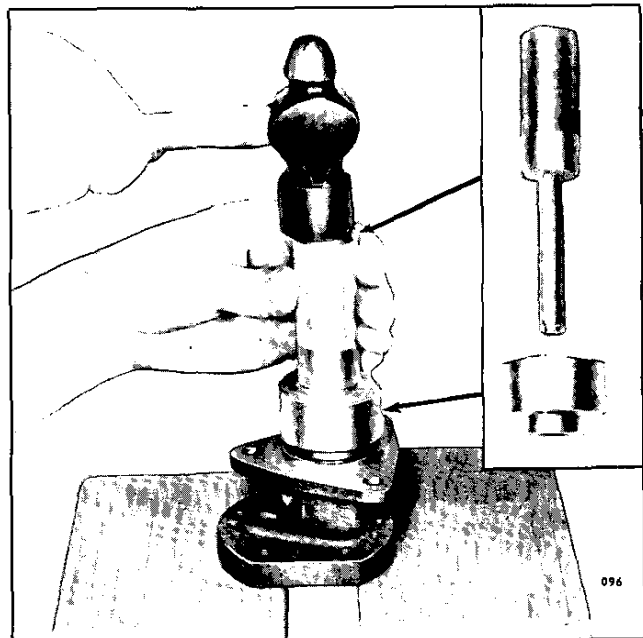

Fig. 8 - Installing Outer Oil Seal
- c. Place the shorter end of the adaptor J 1508-9 over the pilot and against the shoulder of the installer handle. Place the outer oil seal on the pilot of the installer handle with the lip of the seal facing away from the adaptor. Then, insert the pilot of the installer handle into the pump body and drive the seal in (Fig. 8) until the shoulder of the adaptor contacts the pump body. Thus, the oil seals will be positioned so that the space between them will correspond with the drain holes located in the bottom of the pump body.